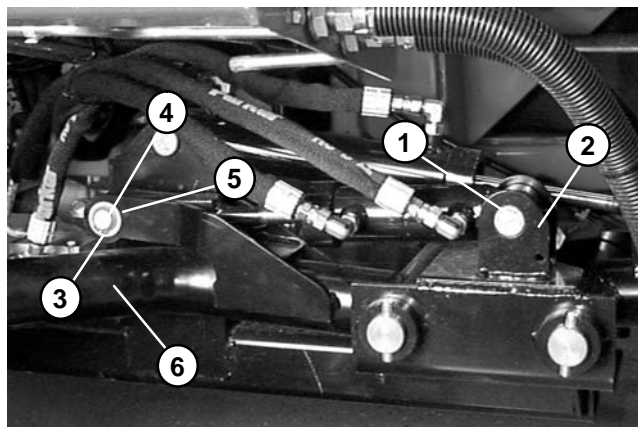

Figure 97
4. Remove front center lift cylinder (Fig. 97).
2. Install front center lift cylinder (Fig. 97).